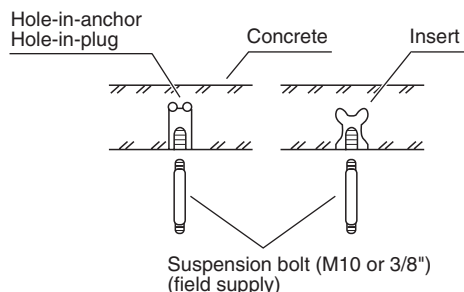

Fig. 2-108
- Insert suspension bolts (Fig. 2-108)
- (2) Screw in the suspension bolts allowing them to protrude from the ceiling (Fig. 2-108). (Cut the ceiling material, if necessary.)